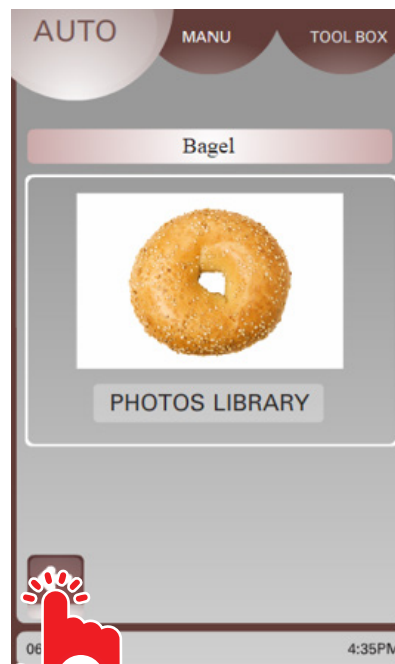

Fig. 20
19. The selected image will be displayed. Touch the back arrow (Fig. 20) to return to the recipe window.